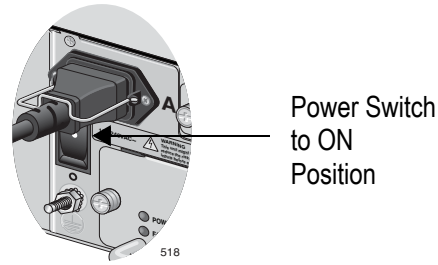

Figure 10. ON/OFF Power Switch in ON Position
5. Turn the ON/OFF power switch of the installed power supply module to the ON position, as shown in Figure 10.